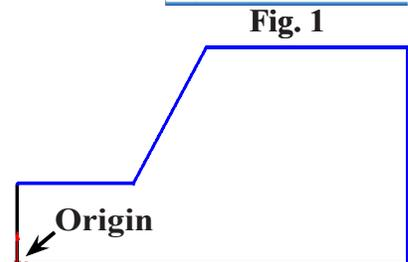

Fig. 2
Step 3. Click **Line**  (L) on the Sketch toolbar.
Step 4. Starting from the **Origin**  sketch the 6 lines, **Fig. 2**.